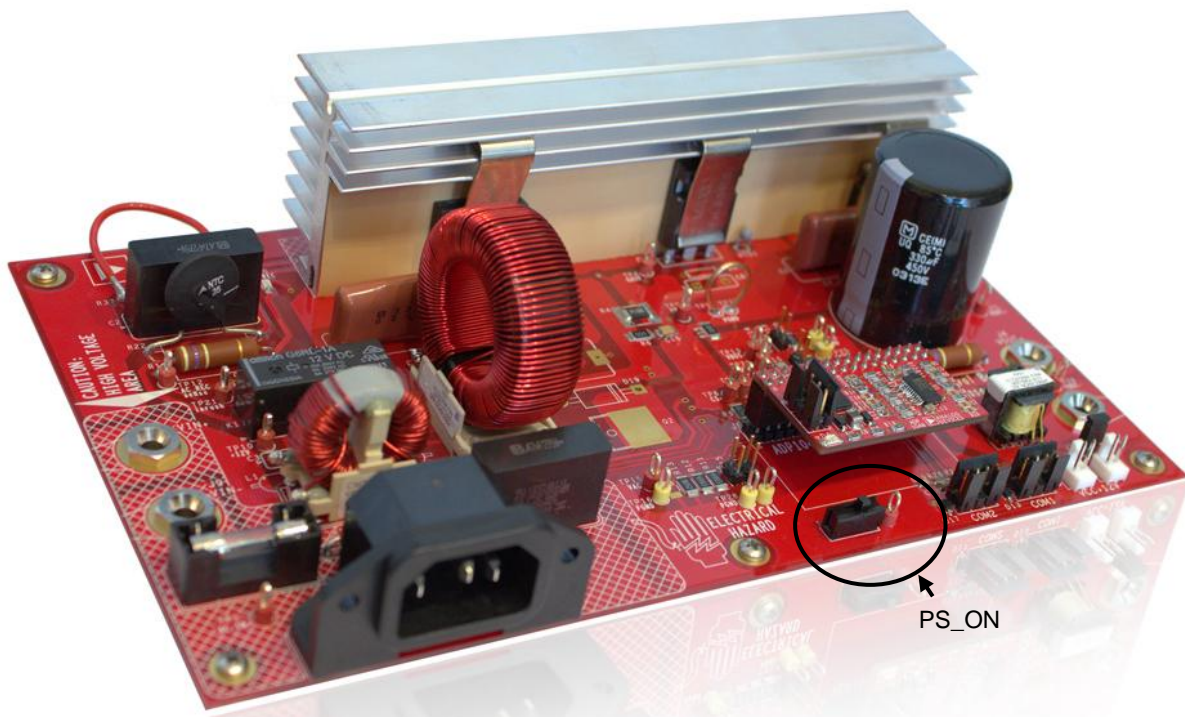

Figure 4 - 300W evaluation board showing PS_ON hardware switch
- 2) Insert the daughter card in connector J6 as shown in Figure 4.
- 3) Ensure that the PS_ON switch (SW1 on schematic) is turned to the on position. It is located on the bottom left half of the board (Figure 4).